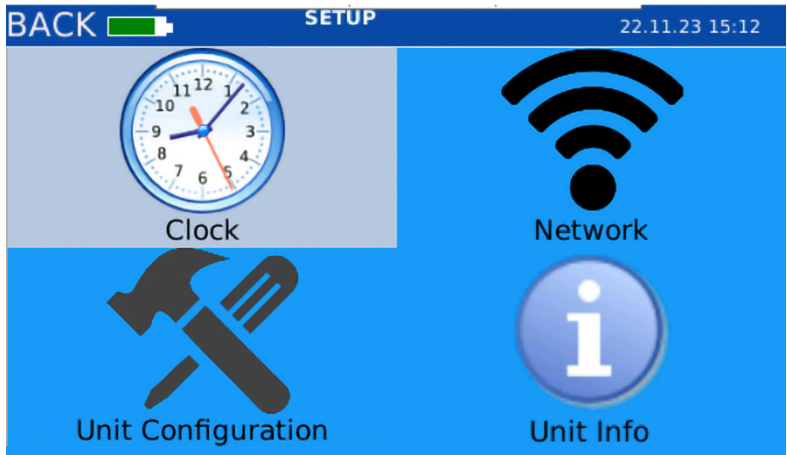

Figure 8. Select "Clock"
- 1. In the Setup menu, select **Clock** (Figure 8).